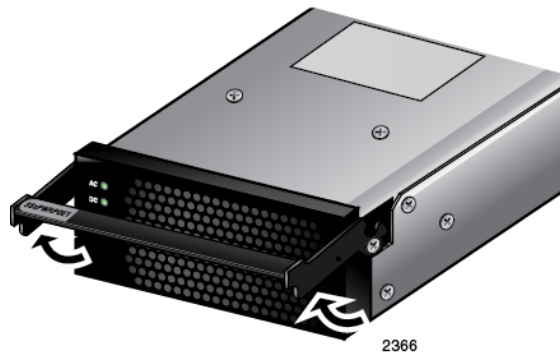

Figure 63. Raising the Handle on the AT-SBxPWRPOE1 AC Power Supply
4. Raise the locking handle on the AT-SBxPWRPOE1 AC Power Supply, as shown Figure 63 on page 123.